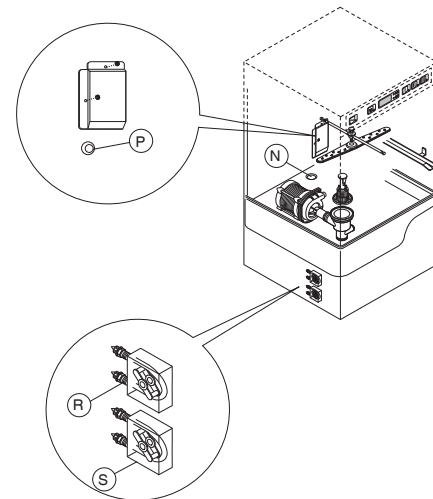

Figure 11
1. Dishwasher with incorporated detergent dispenser pump (Figure 11).
2. Dishwashers with incorporated peristaltic rinse-aid dispenser pump (Figure 11).
Connections for automatic detergent dispenser (Figure 11)